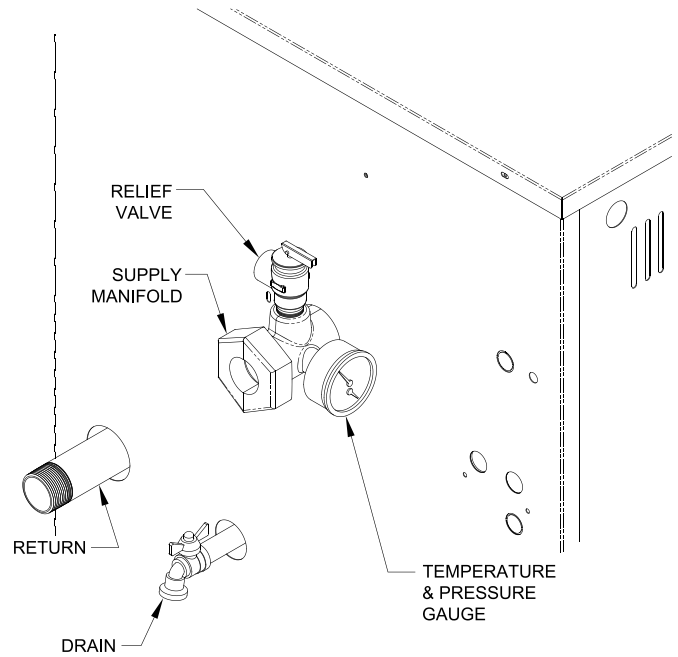

Figure 7-1: Near Boiler Piping
3. Install Safety Relief Valve. See Figure 7-1. Safety Relief Valve must be installed with spindle in vertical position.
4. Connect system supply and return piping to boiler. Refer to Figures 7-1, 7-2, and 7-3. Also consult Residential Hydronic Heating Installation and Design I=B=R Guide. Maintain minimum ½ inch clearance from hot water piping to combustible materials.